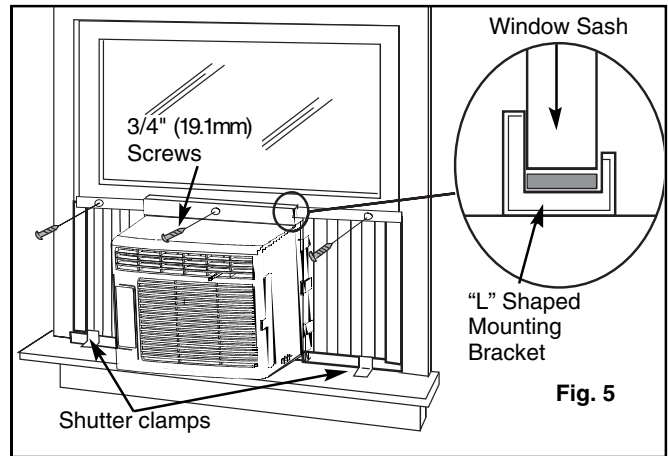

Fig. 5
- Carefully place the air conditioner into the window with the **"L" shaped mounting bracket** (on top) positioned in front of the upper window sash. The bottom of the cabinet should be positioned on the "recessed" portion of the window frame. Pull the window down until it rests just behind the front flange of the (top) **"L" shaped mounting bracket**. See Fig. 5.
- Expand the shutter frames (fully) on each side and secure the top of the frames to the window sash using one 3/4" (19.1 mm) screw on each side and one in the "L" shaped mounting bracket. Fig. 5
- Secure the shutter clamp on each side of the (lower) shutter and secure to window sill using one 3/4" (19.1mm) screw on each side. Fig.5